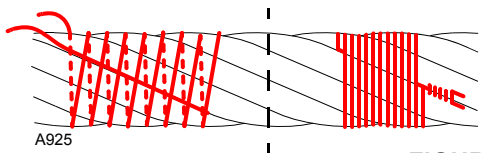

FIGURE 4-170
- Apply the seizing as shown in Figure 4-170.